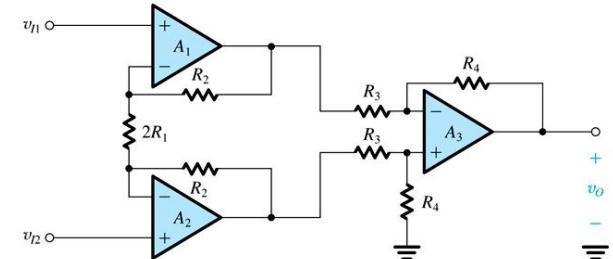

Figure 2.20(b)
- The instrumentation amplifier of Figure 2.20(b) is a very popular circuit. It provides  $v_o = (1+R_2/R_1)(R_4/R_3)(v_{I2} - v_{I1})$ . It is usually designed with  $R_3 = R_4$  and  $R_1$  and  $R_2$  selected to provide the required gain. If an adjustable gain is needed, part of  $R_1$  can be made variable.